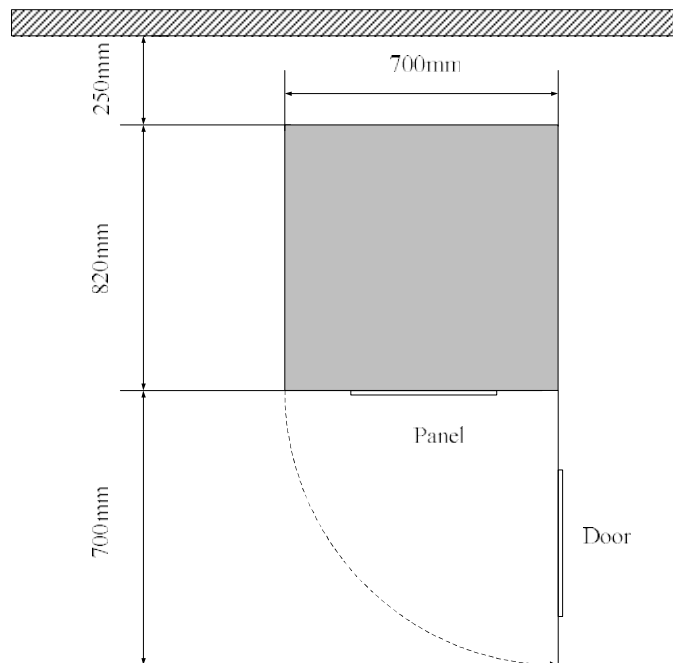

Fig. 3-2 Schematic diagram of bottom of fixing device
- 4) Where the equipment is placed should provide sufficient space to allow the heat which is produced by the equipment to vent (see Fig. 3-2). Please do not cover the air inlet on the front panel;